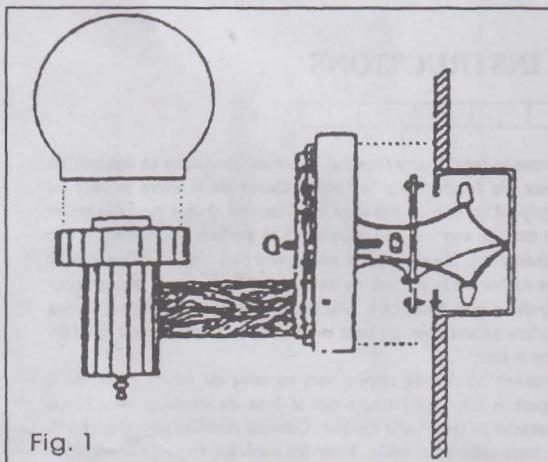
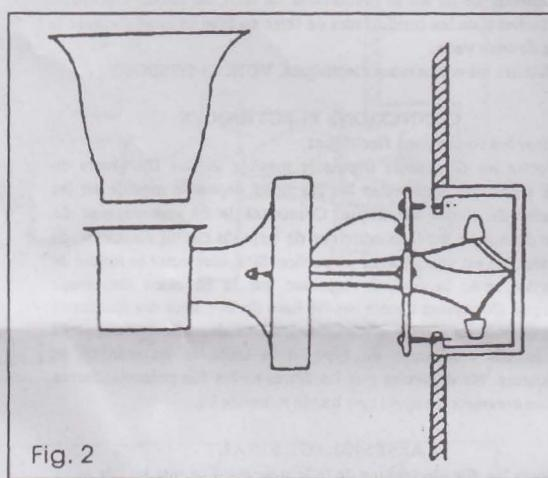

Fig. 1
Fig. 2
2. Some fixtures are provided with a threaded nipple (see Fig. 1 and Fig. 5) or machine screws (see Fig. 2 and 2A) for attaching the fixture to the mounting bracket. If your fixture is supplied with a threaded nipple screw, the nipple 3 complete turns into the mounting bracket and lock into place with a hexagon lock nut. If your fixture is supplied with machine screw, thread the machine